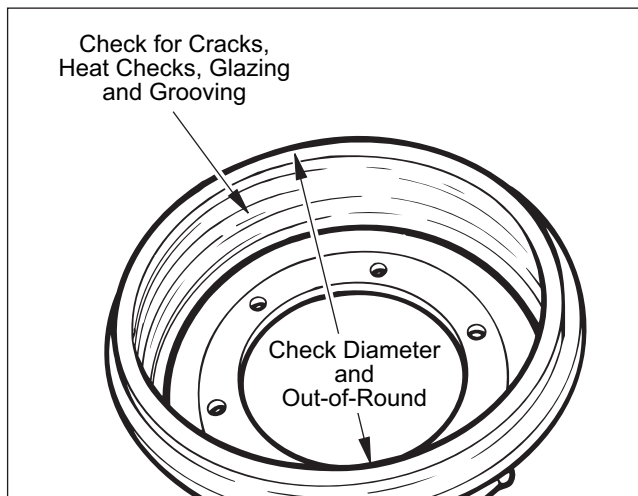

Figure 34. Drum Inspection
1. Check for cracks, heat-checks, glazing, grooving, run-out and out-of-round. Refer to Figure 34. Cracked drums must be replaced. Drums which are glazed, grooved, out-of-round, etc., may be returned to service if they can be repaired without exceeding manufacturer's maximum diameter or run-out specifications.